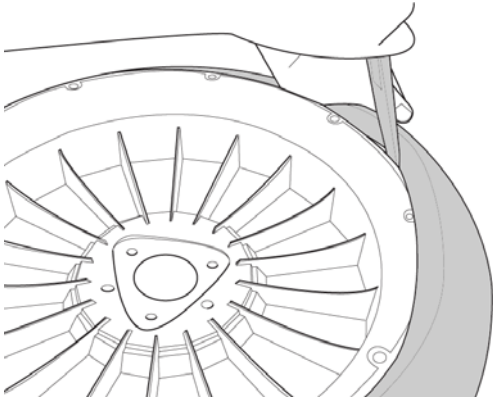

Figure 4-16: Use Tire Iron to Lift Remaining Bead
6. Use tire iron to lift remaining bead over rim, being careful not to pinch or bind tube or crack plastic wheel (Figure 4-16).